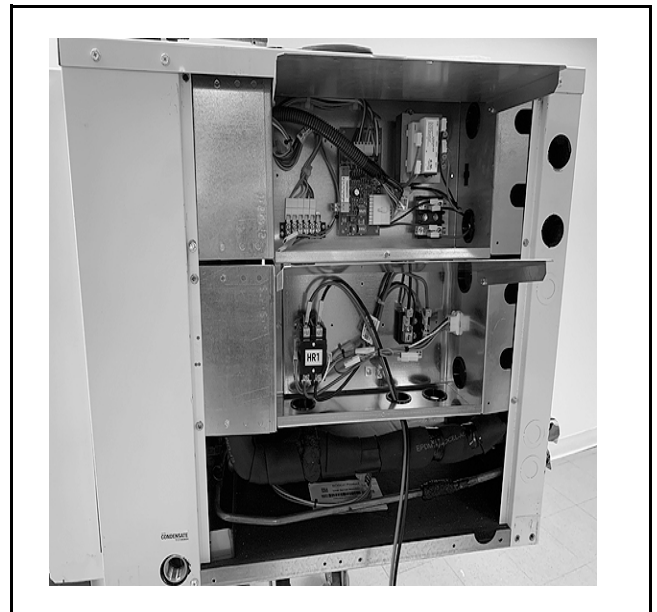

Fig. 27 Secure the Control Box with Screws
6. Secure with screws as shown to complete EH control box installation. (See Fig. 27.)